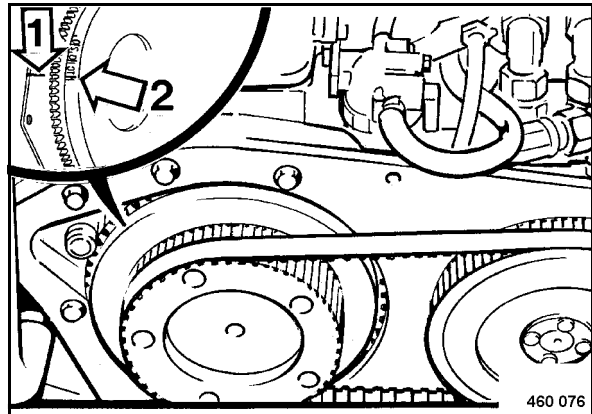

Fig. 119
- Align the mark "1TC" 2 (Fig. 119) on the flywheel to the mark (1) on the housing.